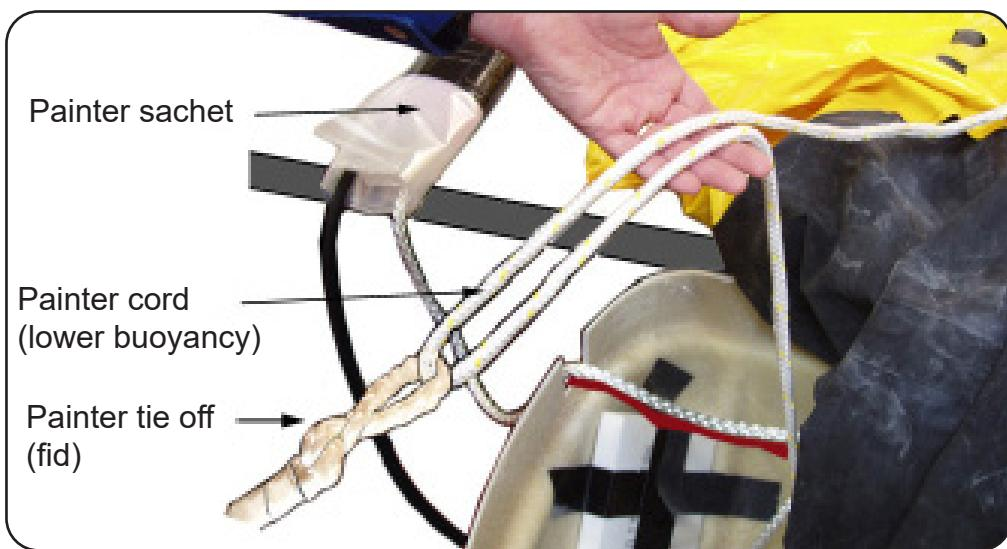
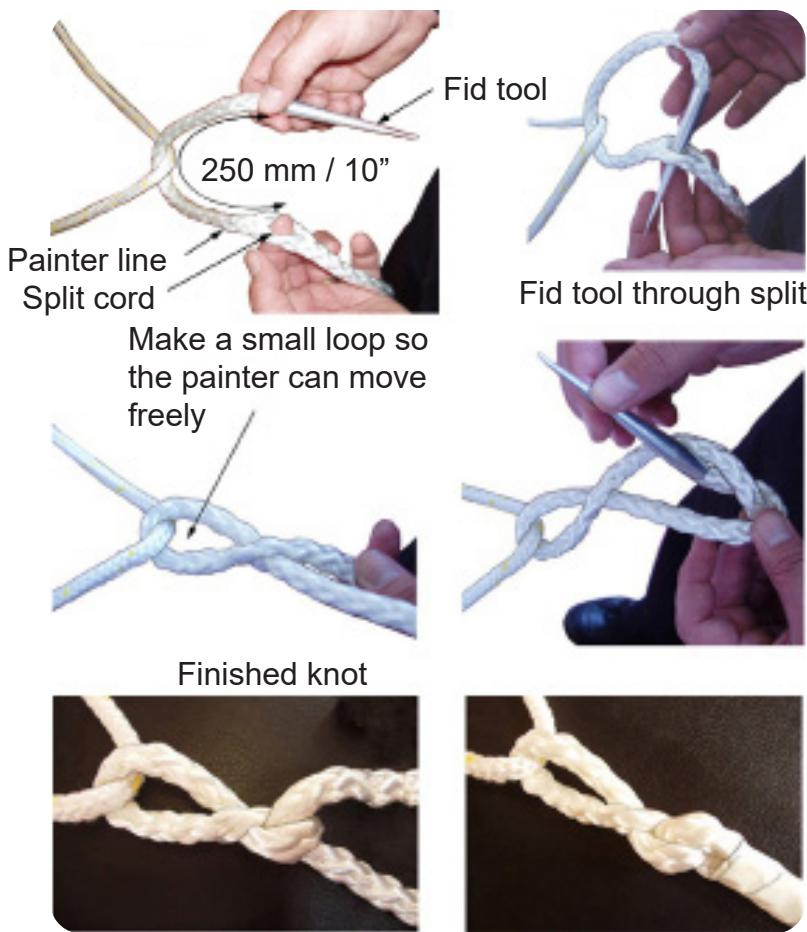

FIGURE A9-7
FIGURE A9-8
- 2.21 Locate the painter bridle attachment cord (for 6 and 8 Person it will be the painter patch) on the lower buoyancy. Attach the liferaft end of the painter to the painter cord. Refer to FIGURE A9-7. Use a fid tool and half knot, then tape the flying end. Refer to FIGURE A9-8.